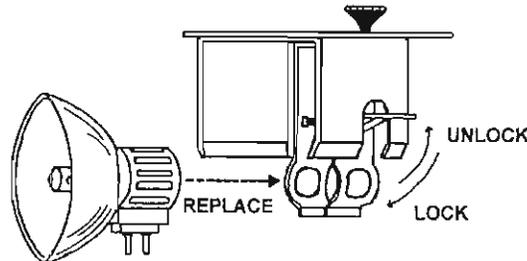

Figure 3-7. Installing the lamp cartridge.
- (1) Acquire a replacement lamp cartridge from stock or requisition a replacement.
- (2) Install a replacement lamp cartridge into the assembly by positioning the assembly and lamp cartridge as illustrated in figure 3-7 and pushing the lamp cartridge into the assembly.
- (2) Push the latch assembly lever rearward with the fingers of your right hand as illustrated above in figure 3-7.
- (3) Orient the lamp cartridge assembly as illustrated in figure 3-7 and insert it into the endoscopic instrument light.
- (4) Depress the power switch to its "1" position.
- (5) Rotate the applicable intensity control to its first position to verify lamp operation.
- (6) Turn the intensity control to its "OFF" position, then depress the power switch to its "0" position.